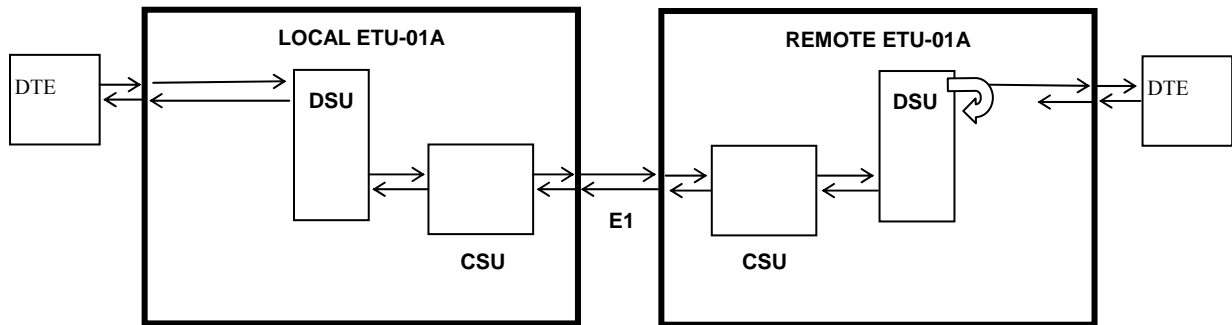

Figure 5-8. Data Port V.54 remote loop back
The Data Port V.54 remote loop back is performed by sending standard V.54 loop back codes to the remote unit. The remote unit then connects its local data channel receive data (RD) to the channel transmit input (TD). This loop back test checks the performance of the local ETU-01A, the remote ETU-01A and the connections between them, as shown in Figure 5-8.